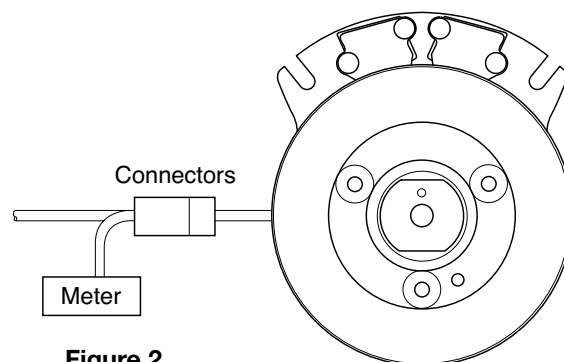

Figure 2
Step 2 Measure the supply voltage at the clutch (Figure 2)